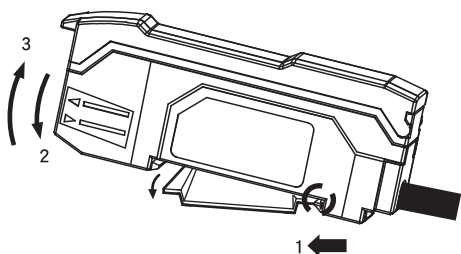

Figure 1
1. As shown in Figure 1, align the card slot at the bottom of the fuselage to the DIN guide rail. While pushing the fuselage in the direction of arrow 1, push down in the direction of arrow 2.